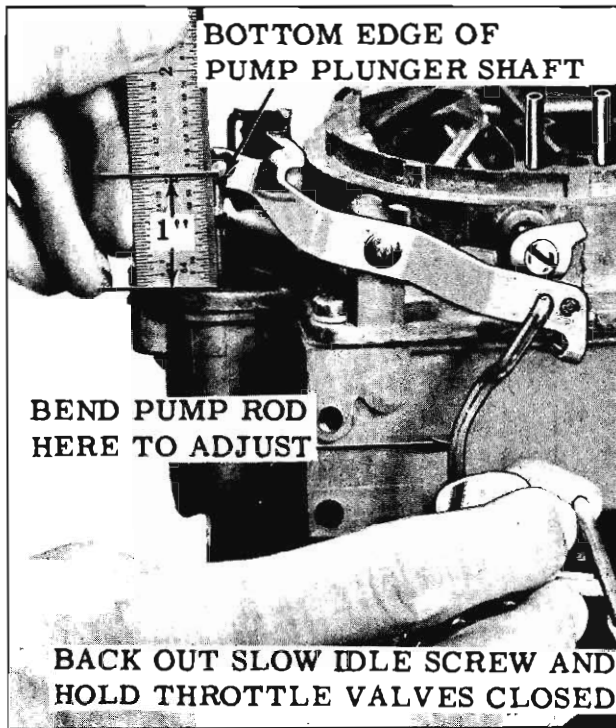

Fig. 4-28 Pump Rod Adjustment
1. While holding the throttle valves closed, idle speed screw backed out, measure the distance from the top of the air horn casting to the bottom edge of the pump plunger shaft. It should be $1-1/64''$. (Fig. 4-28)